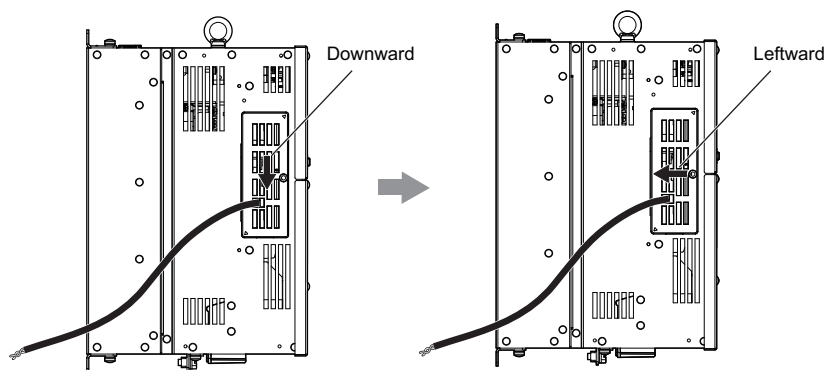

Figure 4.32 Sliding the CN19 Connector Cover into Place
6. Slide the CN19 connector cover back into place as shown in Figure 4.32.